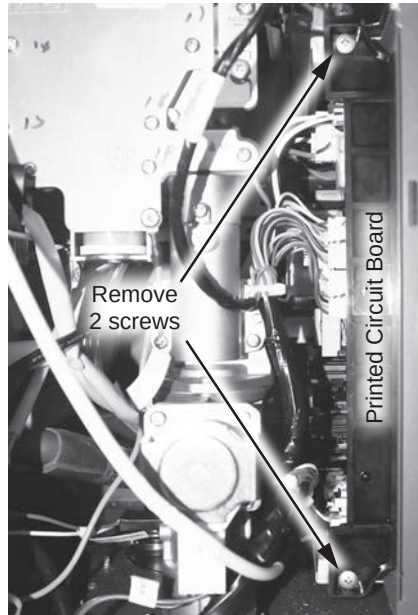

Figure 34 - Removing PCB screws
- 10** Locate the Printed Circuit Board (PCB) on the right side of the water heater. Use a Phillips screwdriver to remove the two screws securing the PCB. Place screws aside in a safe place for reinstallation. See Figure 34.